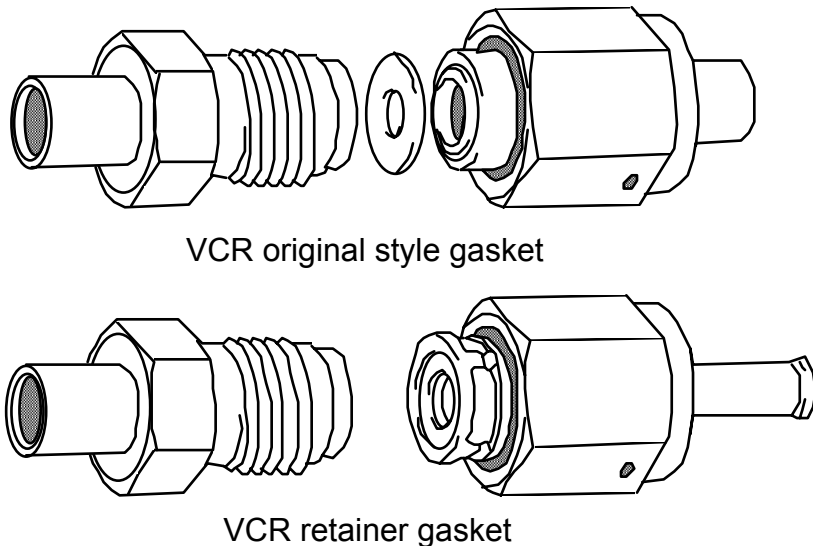

Figure 2-2 VCR compatible fittings
The AFC 50 mass flow controller or AFM 55 mass-flow meter normally come with 1/4" male VCR compatible couplings on both sides. To install the AFC/AFM, follow the steps listed below. Refer to figure 2-2.
- b) For VCR retainer gaskets, snap the gasket onto the male coupling. See figure 2-2.